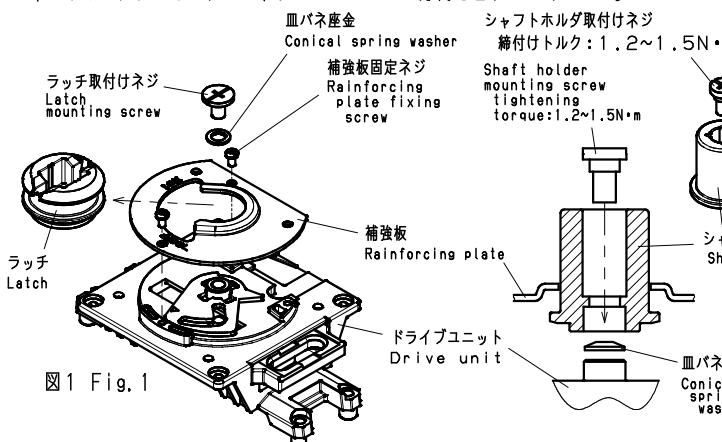

図1 Fig. 1
(1) ラッチの取外し(図1)
1. Mounting procedure (Fig. 1)